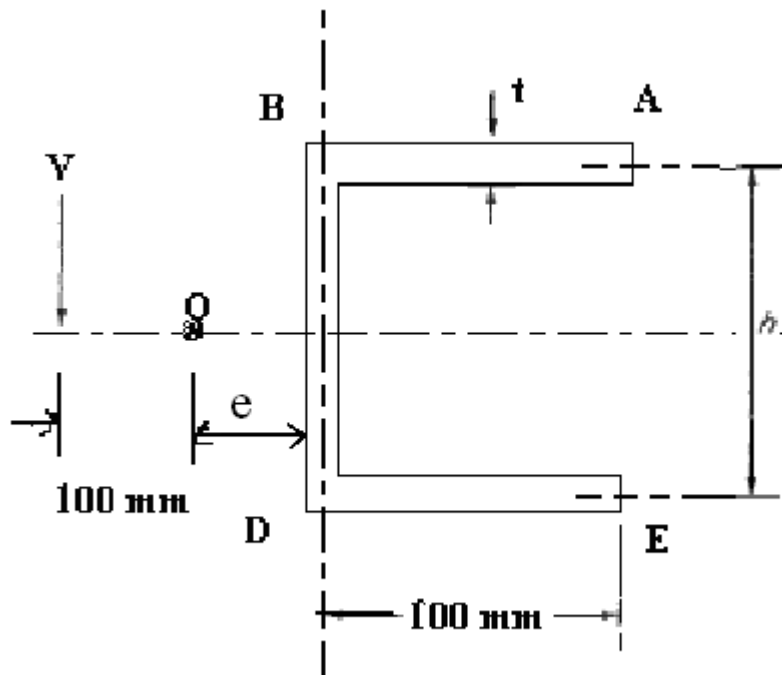

Figure 8:
2. Unlipped channel shown in figure 8, subjected to 11KN load applied 100mm away the shear centre, which is producing Torque. Find out shearing stresses distribution and torque intensity.  $S = b = 100$  mm,  $V = 11$  KN,  $t = 4$  mm,  $h = 150$  mm,  $e = 40$  mm. [16]